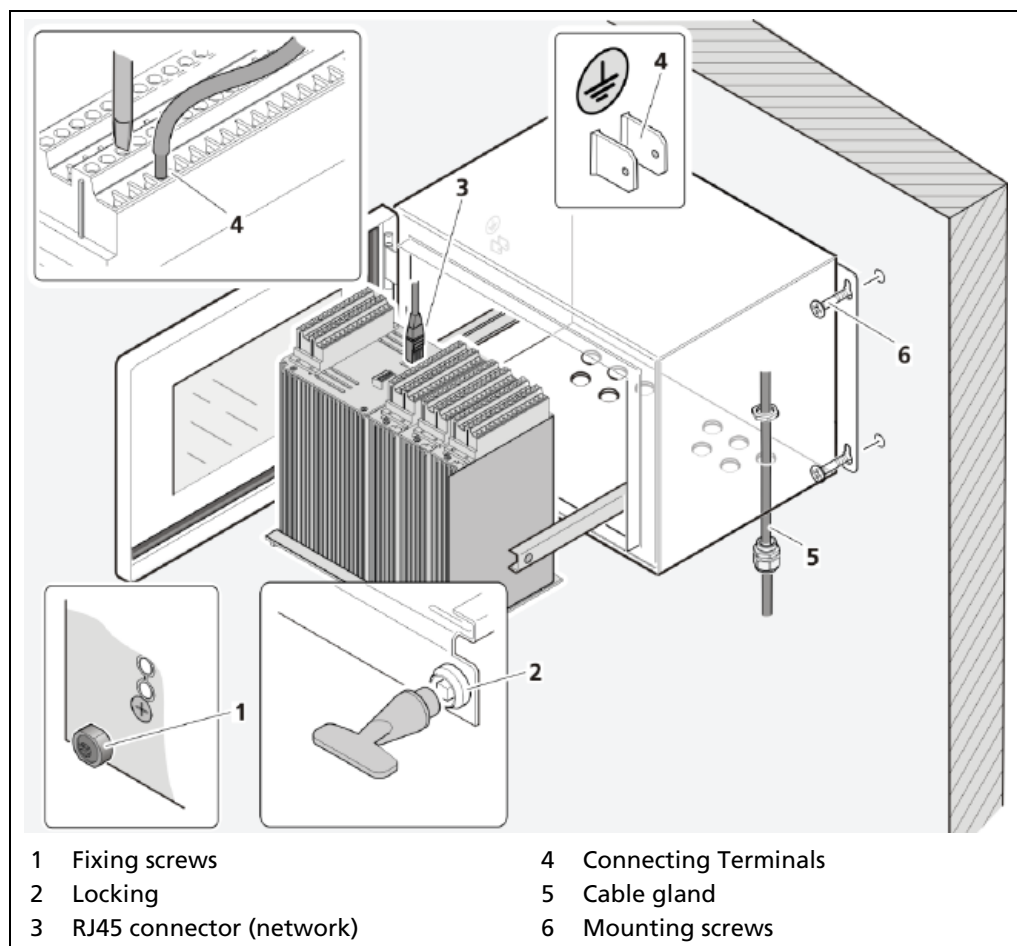

Fig. 135 Decommissioning wall housing
1. Make sure that the locking bolts (Fig. 135, item 1) of all modules are tightened in order to prevent slipping.
2. Loosen the lock (Fig. 135, item 2) using the supplied square key and pull the subrack out.
5. Remove the network plug (Fig. 135, item 3).
6. Remove all lines (Fig. 135, item 4).
7. Loosen the cable gland (Fig. 135, item 5) on the bottom side of the wall housing and pull all cables from the wall housing.
9. Loosen the mounting screws (Fig. 135, item 6) and remove the wall housing.